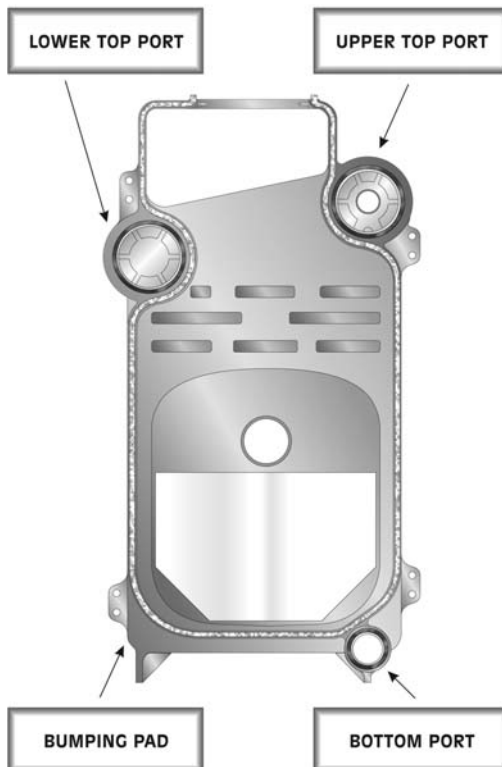
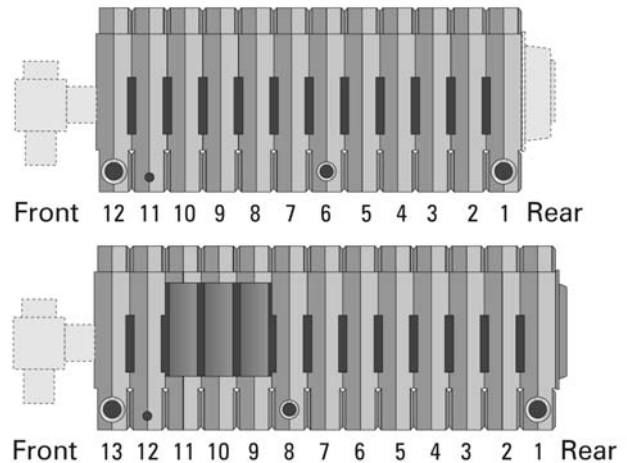
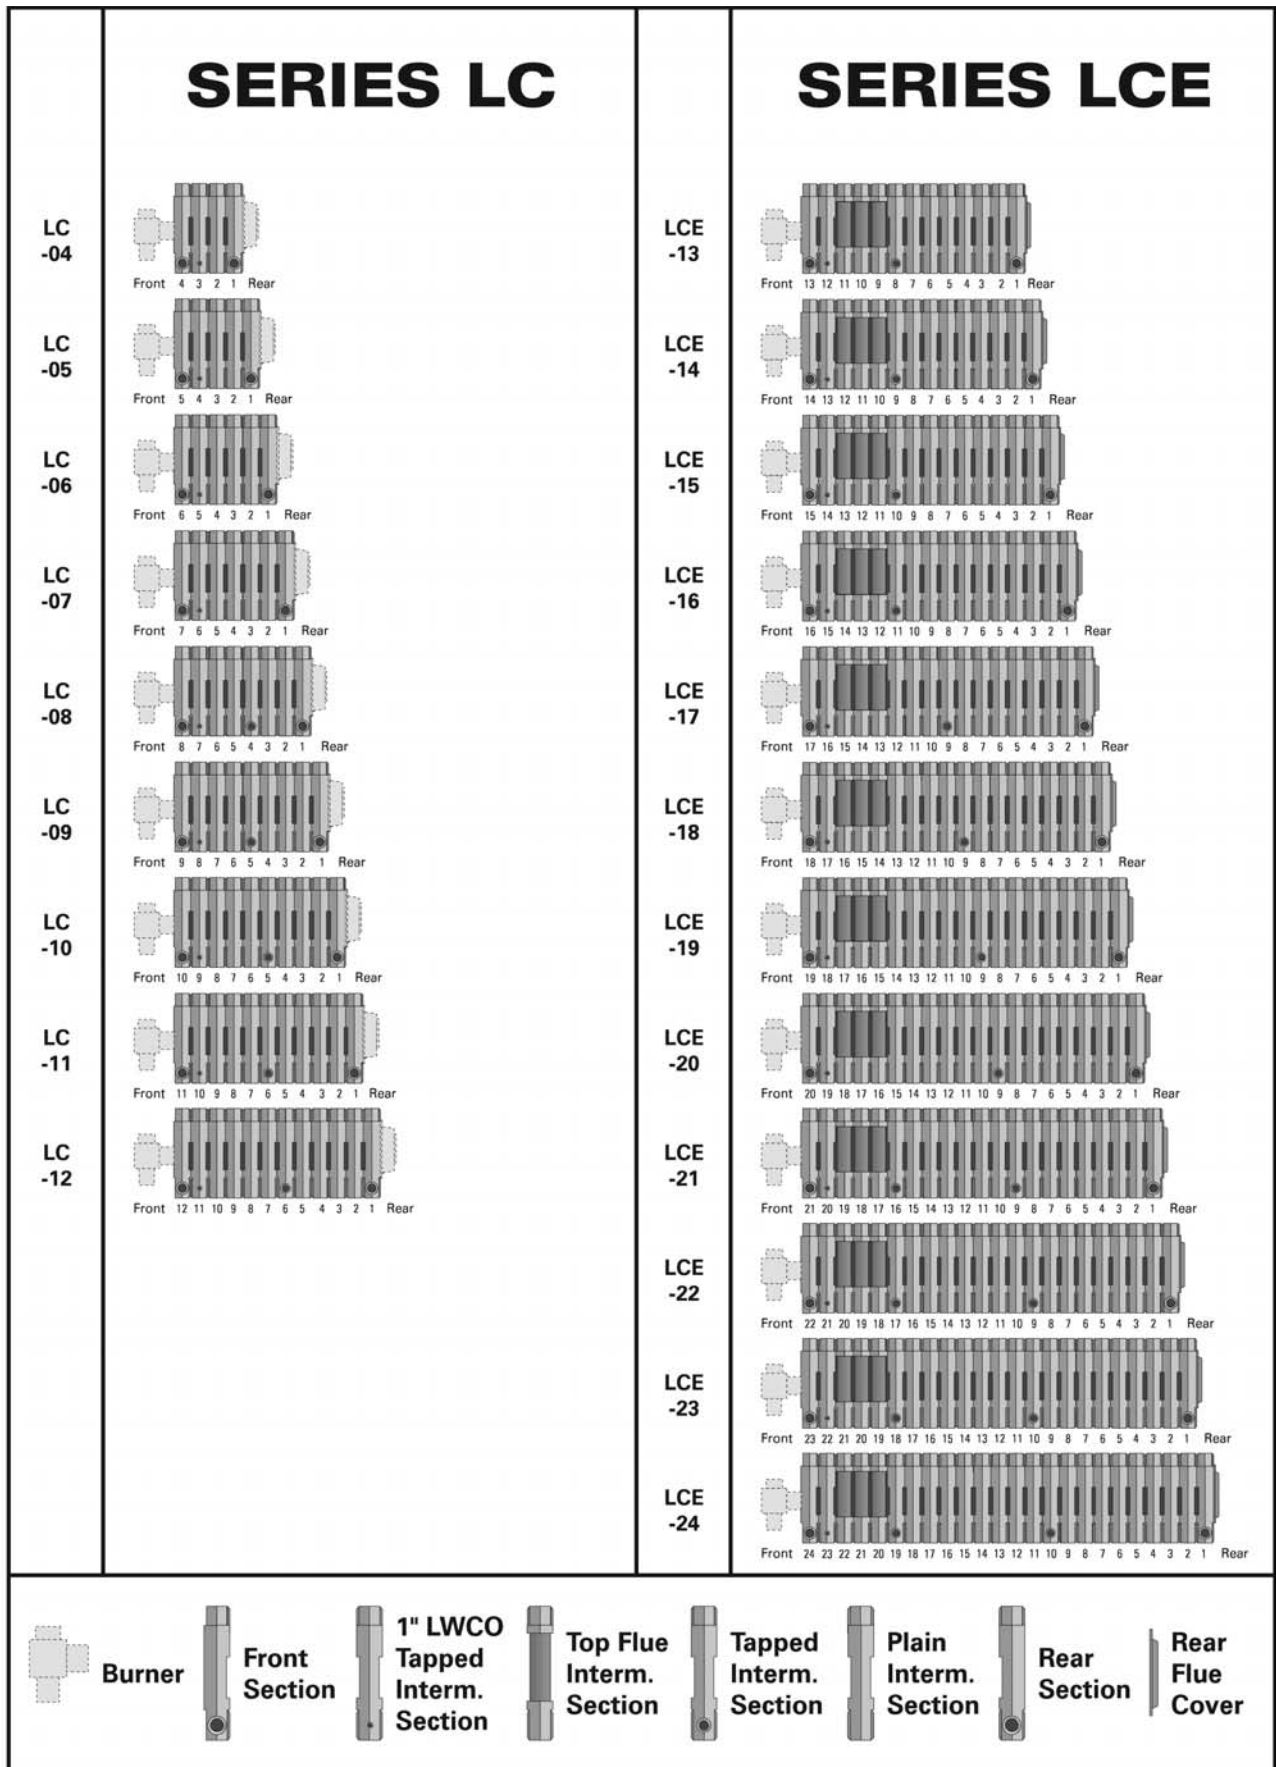

Figure 2.7: Torque Specification/Procedure
Figure 2.8: Section Positioning Numbering
Figure 2.9: LC/LCE Boiler Section Assembly Sequence
- Draw the sections together evenly, in three rotations. Torque each port to 20 ft-lbs for the first rotation, then to 40 ft-lbs for the second rotation, then to 60 ft-lbs for the third rotation. Use the following sequence until all three ports touch metal-to-metal at 60 ft-lbs. See Figure 2.7 for port reference.
- Tighten these (3) three locations only to a torque value of 60 ft-lbs. **DO NOT EXCEED.**
- Place the Intermediate Section with 3" top tapping (Tapped Intermediate) in the position given in Figure 2.9.
- LCE ONLY. Save the (3) Top Flue Outlet Intermediates (with wide opening in top of the flue collector) for use as the sections closest to the LWCO Intermediate Section. See Figure 2.9.
- Three (3) Top Flue Outlet Intermediates
- The remaining intermediate sections are 3" Tapped Intermediates or Plain Intermediates as shown in Figure 2.8 and Figure 2.9.